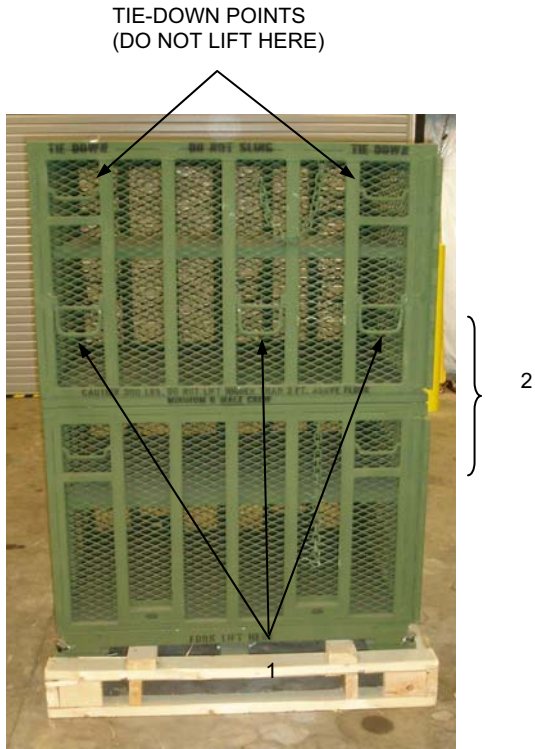

Figure 3-19. Portable Cage Assembly.
4. Using the carrying handles (Figure 3-19, Item 1), lift the top unit straight up and place on top of the bottom unit.
5. Align the units (Figure 3-19, Item 2). Unlock and open the doors to the top and bottom units. Insert the screws and secure with locking nuts.